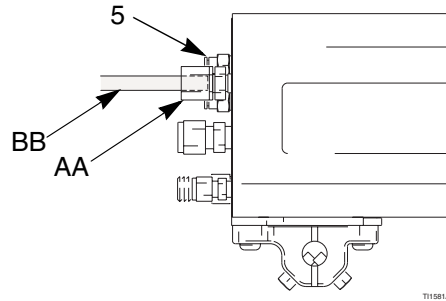

Fig. 7: Fiber Optic Cable
2. Remove the nut (AA) from the fiber optic fitting (5) and slide the nut over the end of the fiber optic cable (BB). See FIGURE 7.
3. Push the cable (BB) into the fitting (5) until it bottoms out. Tighten the nut (AA) to secure the cable.